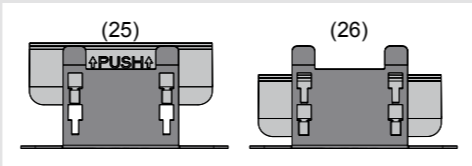

Figure 17: Moving the opening tool
(24) Opening tool
- To open the letter box front 2/1, first move the opening tool from the upper (25) to the lower position (26) (Figure 17).